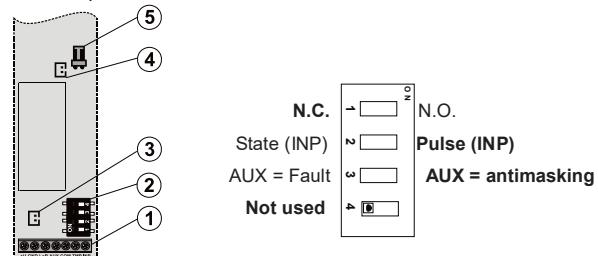

Figure 4 - Transmitter: 1 – terminals, 2 – option DIP switch, 3 – external tamper connector, 4 – external antenna jumper, 5 – external antenna connector
- 4. Pull the rear TAMPER cable through the opening you have punched in the bottom detector cover and insert the rear TAMPER connector into the pins marked EXT.TMP (3) see Figure 4 (remove the jumper installed in production).